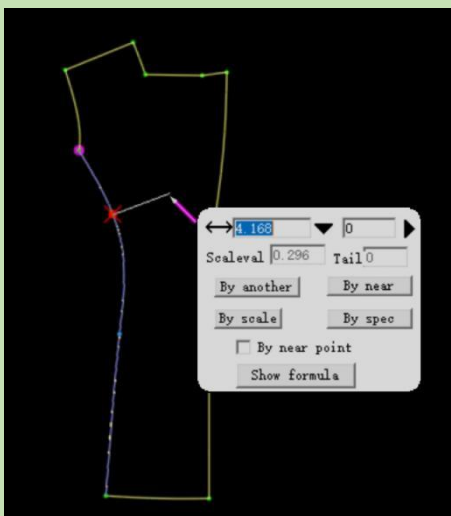

Figure4-87
1. Press the "N" key on the line where the dart needs to be added (Figure 4-87).